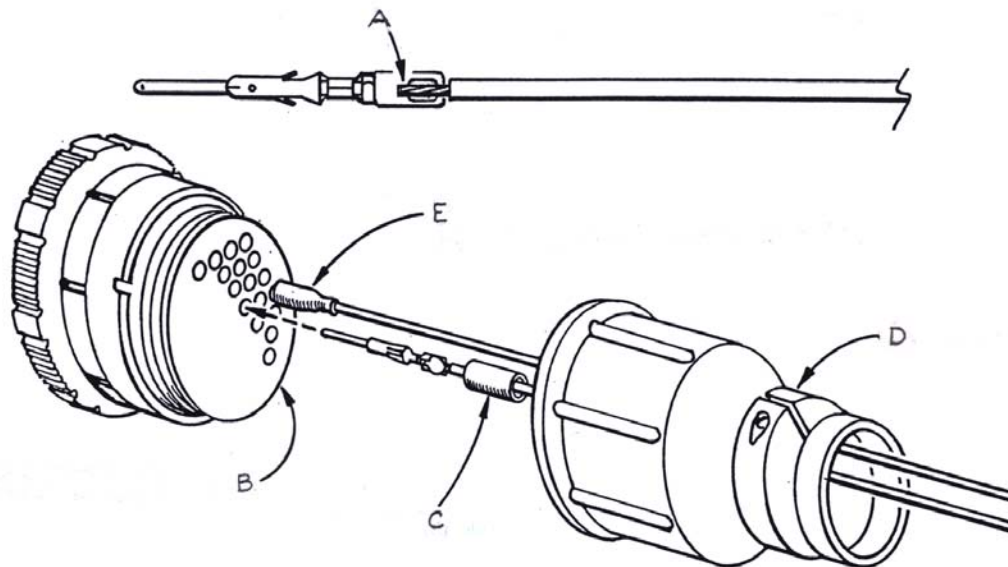
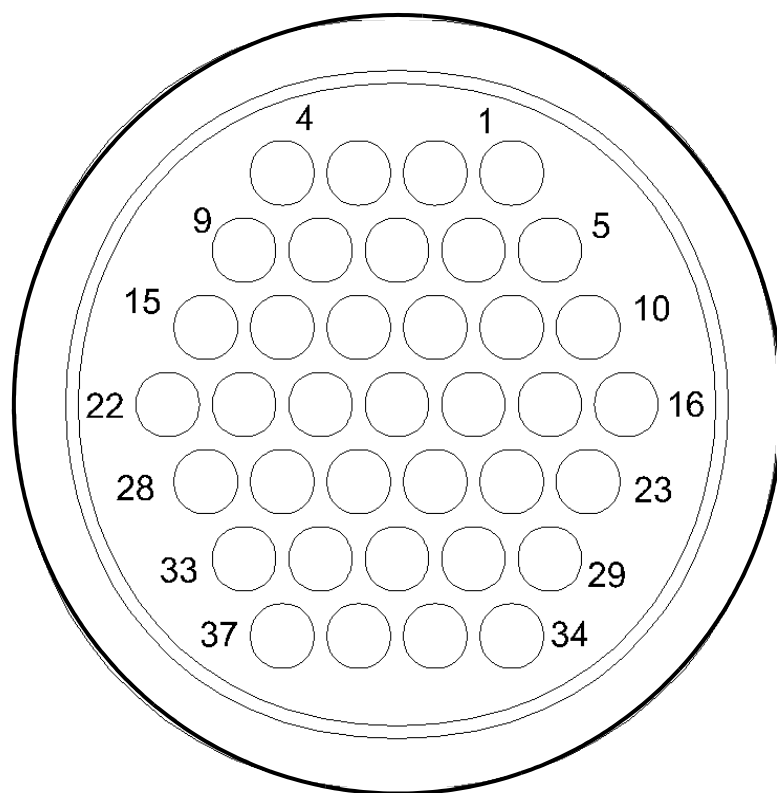

Figure 4-16: Remote Connector Assembly
Figure 4-17: Wire Side of Remote Connector Plug
(See Figure 4-16.)
2. Cut the heat shrinkable insulating tubes into 1/2-inch (13 mm) lengths. Slide a 1/2-inch long insulating tube onto each wire. Slide the cable clamp over the jacket. (Item D in Figure 4-16.)
See Figure 4-16; Figure 4-17; and Table 4-4 in this section.